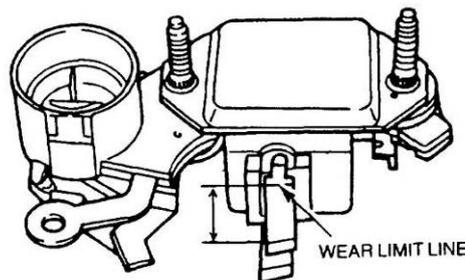

Figure 321 Inspection of Brush Length
- h. Ensure the brushes are between 5.5 to 12.5 mm (0.22 to 0.49 in). Replace the brushes if they are worn to (or near) the line scribed on the brush (Figure 321).